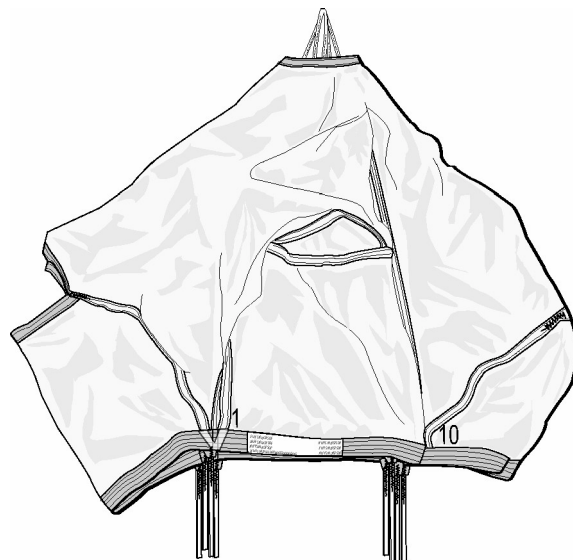

Figure 1. Drogue Parachute Layout Identification Label Centered
a. Lay drogue parachute on table with information label facing up, centered, and drogue parachute arming loop facing upward. Perform a continuity check (Figure 1).